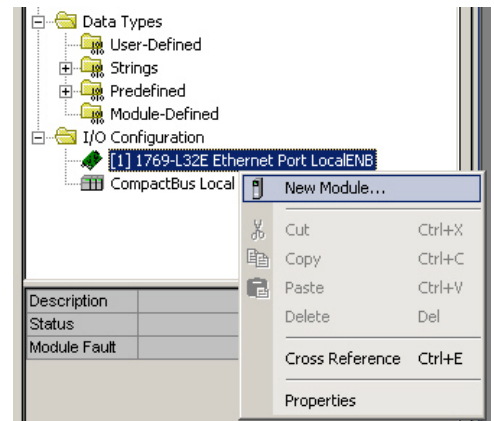

Figure 4.4 Adding an NR25
- 1) As shown in figure 4.4 on the right, the Ethernet port will be listed under the I/O Configuration tree. Right click on the port and then click on “New Module...” in the pop-up menu.